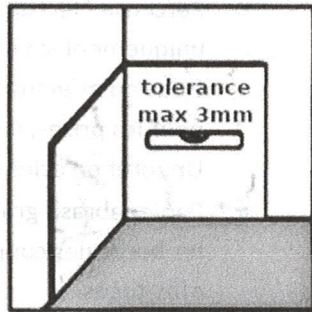

Figure 1
2. Use a level or laser to measure flatness of wall(s) used for installation. The allowable tolerance is 1/8th of an inch (3 mm). **(Figure 1)**